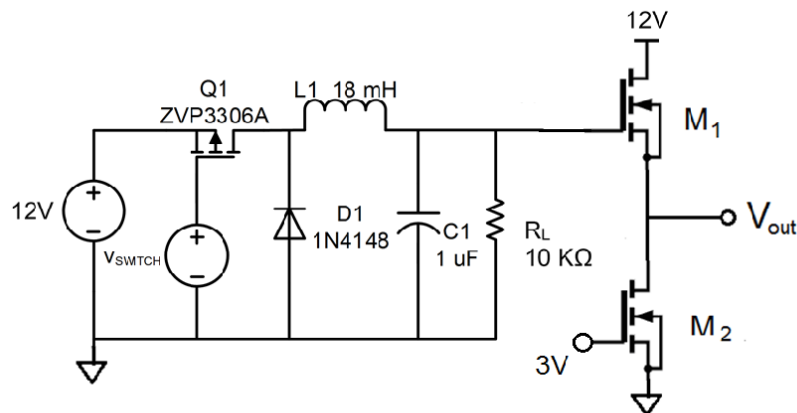

Figure 5. Buffered buck converter
Question 2: A simple buffered buck converter is shown in Figure 5. Simulate the circuit in LTSPICE for  $V_{SWITCH} = 0-12V$  rectangular wave at 25 KHz. Find the duty so that  $V_{OUT}$  is 6V (within  $\pm 2\%$ ).
2. Construct the circuit shown in Figure 5 and record duty cycle when  $V_{OUT} = 6\text{ V}$  (within  $\pm 5\%$ ). Keep the duty cycle and change load resistance to  $6\text{ K}\Omega$  and  $2\text{ K}\Omega$ . Measure  $V_{OUT}$  and calculate load regulation. Record measurements and analyses in the textbox below.